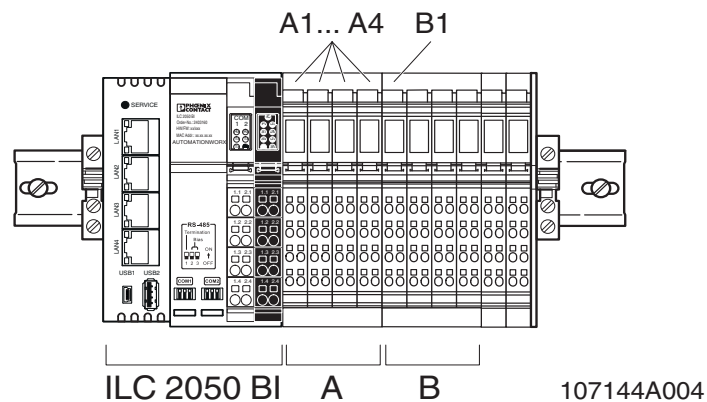

Figure 2-12 Connectors to be removed when Inline terminals are attached
- If Inline terminals are mounted on the Inline controller (see Figure 2-12):
- Remove the directly adjacent Inline terminal (A).